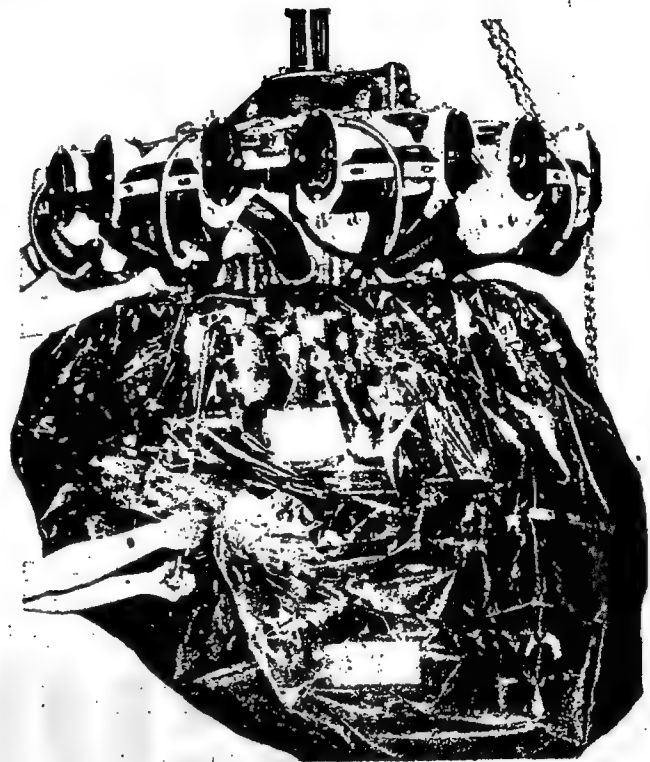
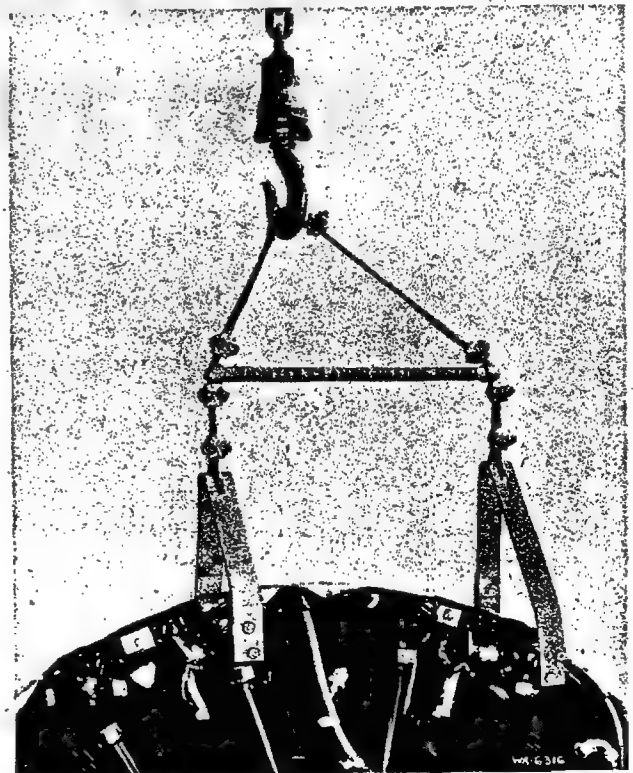

Figure 28—Removing Mounting Plate from Engine
Figure 29—Location of Hoisting Sling
(10) Remove the mounting plate and the plastic-film envelope from the engine. See figure 28.
(11) Remove the oil tank vent sump from the rear cover and install the plug which is wired nearby. Lockwire the plug.
(12) Secure the metal straps of the engine hoisting sling to the cowl attaching studs at the front and rear of the intake rocker boxes of cylinders No. 1 and 9, using eight lock washers and nuts. Insert the spreader bar between the two arms of the cradle assembly, and tighten the cable clamps before hoisting. Raise the engine to the flight position. See figure 29.
(13) Remove all the moisture-resistant seals from the exhaust ports and the vents.
(14) Remove, clean, inspect, and reinstall the oil filter and the magnetic sump plug.